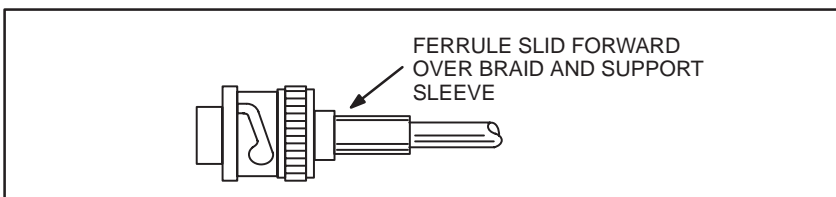

Figure 3.13 - Connector Installation Step 8 for RG-59/U Cable
- Step 8. Slide the ferrule forward over the shield braid wire and support sleeve until the ferrule butts against the shoulder on the connector body. See figure 3.13.